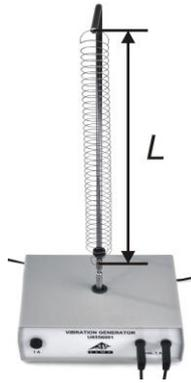

Fig. 4a: Illustration of the (effective) length L of the stretched coil spring.
- Set the (effective) length of the spring L (Fig. 4a) to about 30 cm. You might need to adjust the position of the angled stand rod.
- Measure the effective lengths L of the the stretched coil spring and the stretched rope (Fig. 4a, b) and make a note of them.